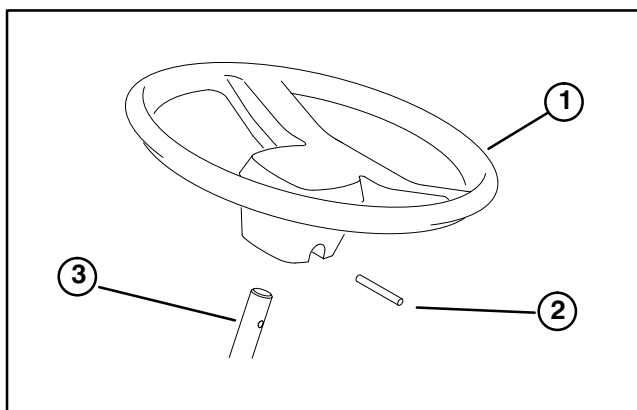

Figure 1
1. Remove roll pin securing steering wheel to upper steering shaft (Fig. 1). Remove steering wheel.